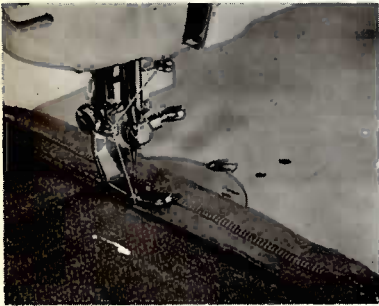

Fig. 41
- 1) Remove the presser foot & attach the adjustable zipper foot. (Fig. 41).